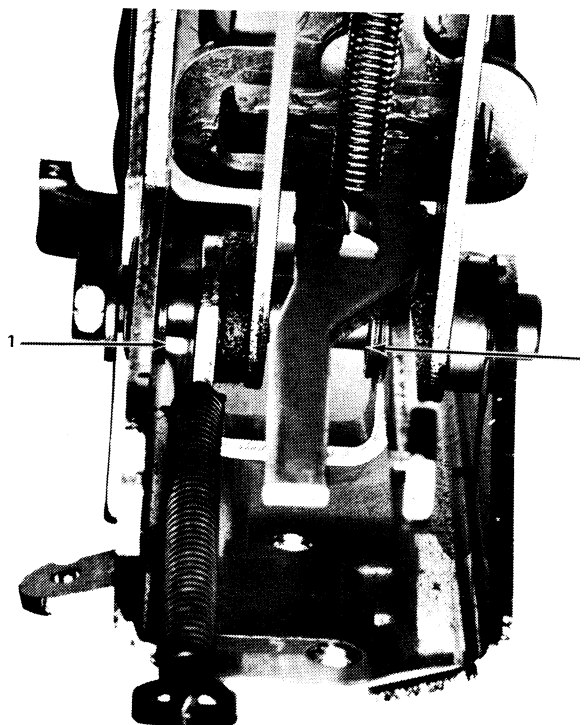

Figure 4-34. Index Cam Follower Removal (Index Magnet Removed From Printer)
2. Remove the two inside C-clips (No. 1, Figure 4-34) and slide the pivot shaft to the left until the cam follower is free.